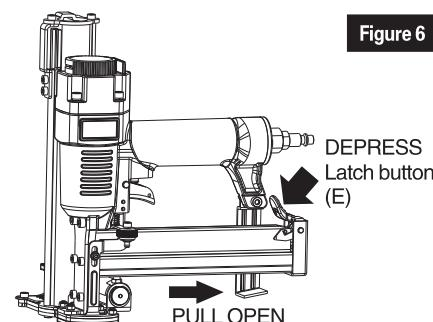

Figure 6
2. Fully press the Latch button (E) to get the Inner magazine (F) released, then pull backwards the Inner magazine (F) to the end. (See figure 6 & 7)